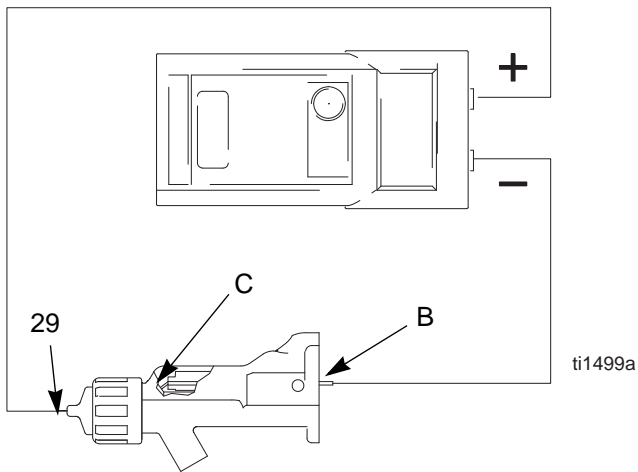

Fig. 20. Test Electrode Resistance
2. Insert a conductive rod (B) into the gun barrel (removed for the power supply test) and against the metal contact (C) in the front of the barrel.
3. Measure the resistance between the conductive rod (B) and the electrode (29). The resistance should be 20-30 megohms. See FIG. 20..